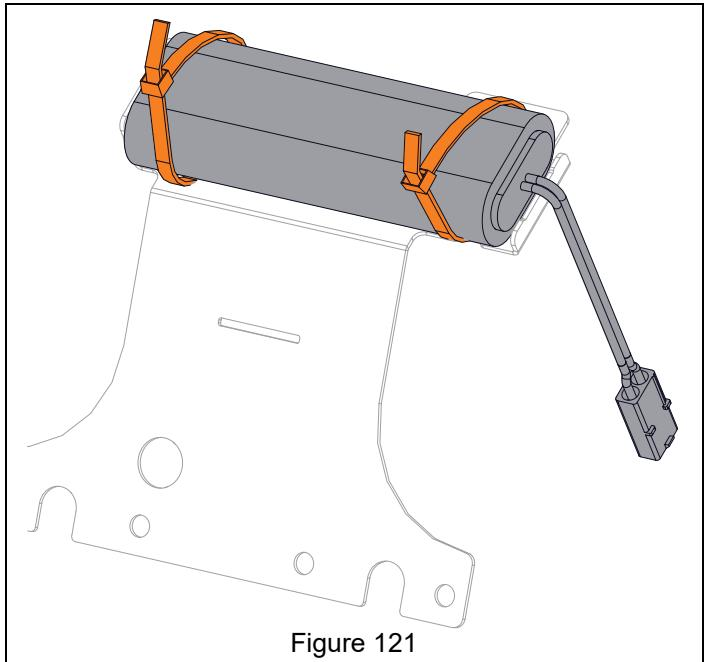

Figure 121
1. Position battery in battery bracket and secure with two cable ties. See Figure 121.